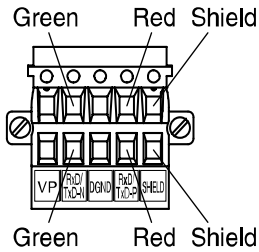

Fig.1
- Make sure to connect the signal cables to designated pins (Refer to Fig.1).